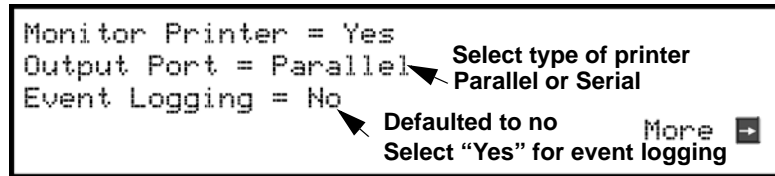

Figure 4-34 Selecting Printer and Output Port Options
- Press the right arrow to skip over the Enter Module ID and Enter Module name options. A screen similar to the one shown in Figure 4-34 will display.